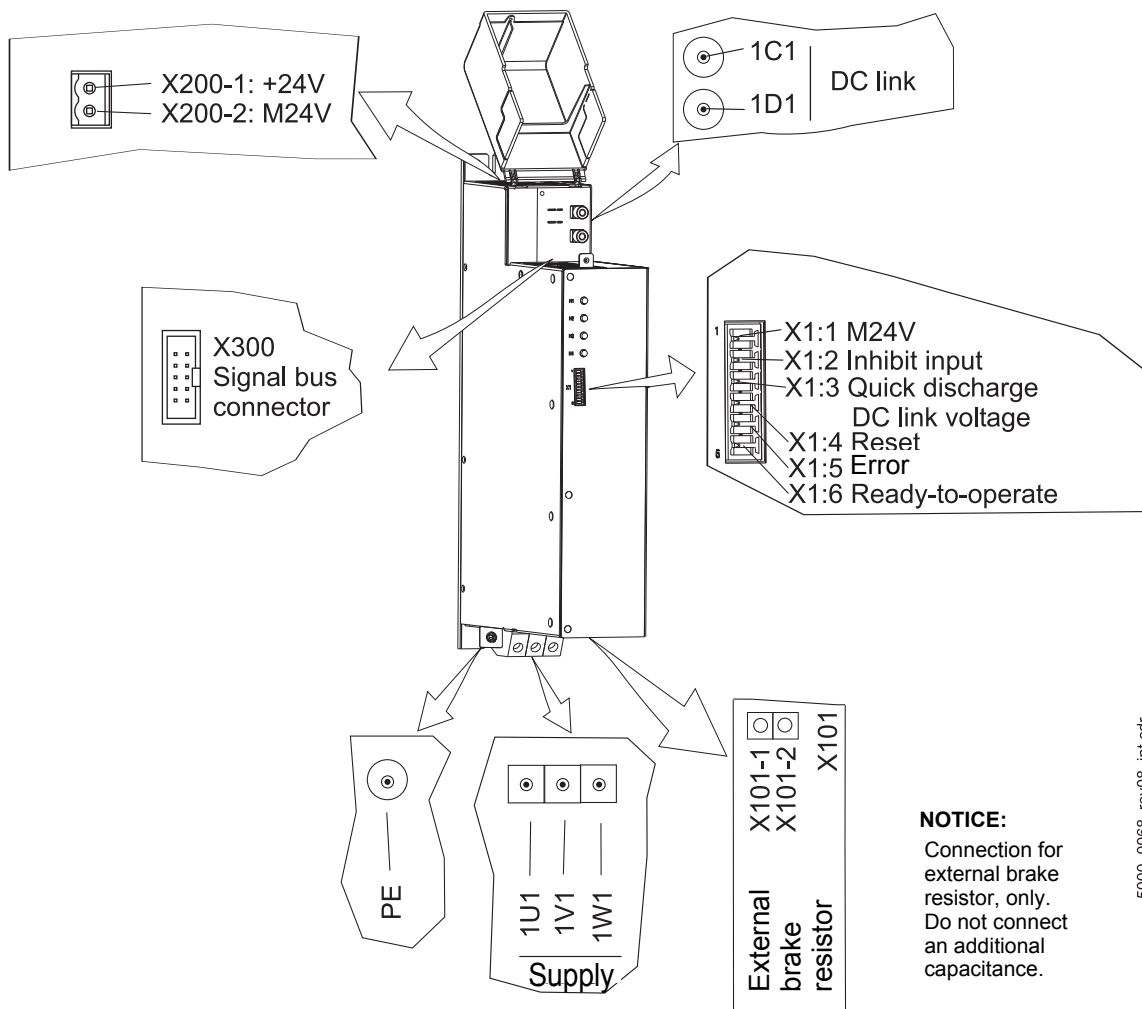

Figure 80: Electrical connections of the BM503, BM504XX without safety function
- 1U1, 1V1, 1W1 Power supply connection, see ▶Figure 80◀ on page 164.
- X200 Connections for 24 V voltage supply; for additional information, see ▶Figure 80◀ on page 164 (SELV/PELV).
- X1 Control inputs and outputs, for additional information see ▶Figure 80◀ on page 164 and ▶Electrical connections of the BM50XX-XX0X-... without safety function◀ on page 164.